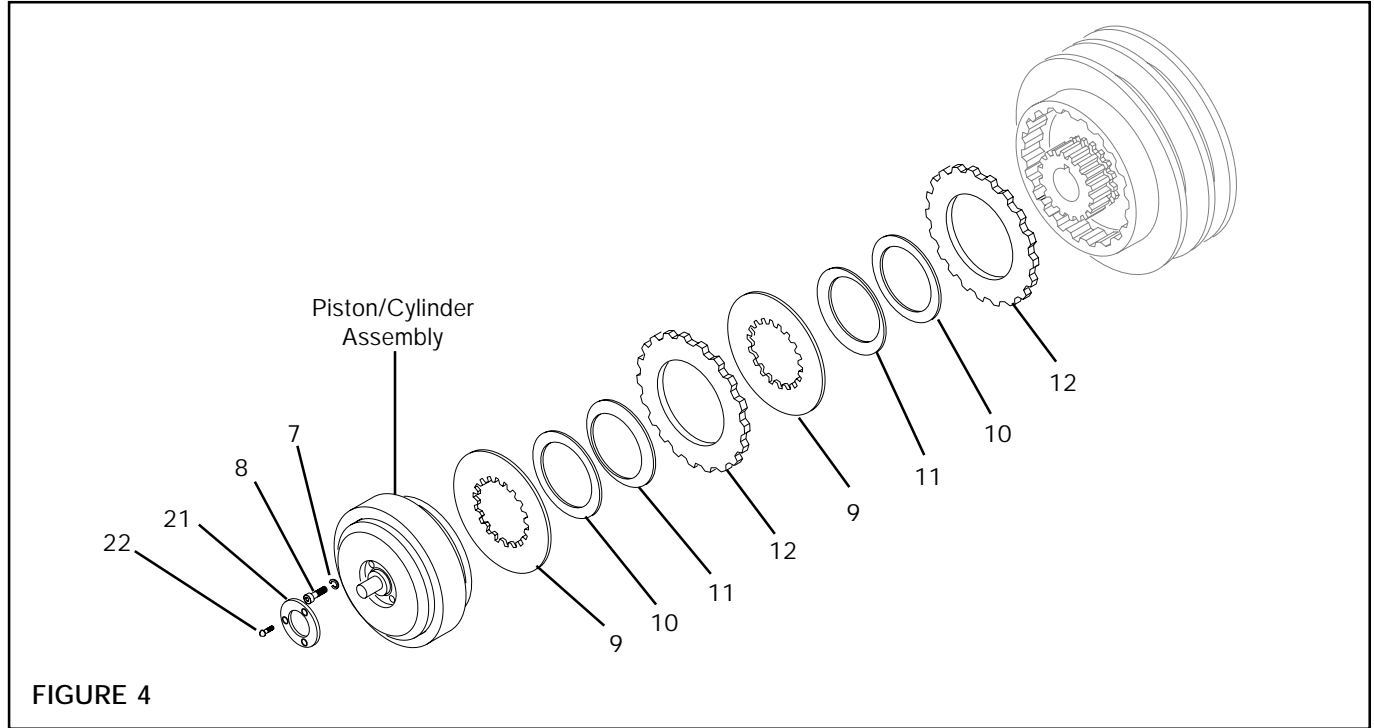

FIGURE 4
2. Remove three Slotted Pan Head Screws (Item 22) (See Fig. 4).
3. Remove Retaining Washer (Item 21) (See Fig. 4).
4. Remove Socket Head Cap Screws and Lockwashers (Items 7 & 8) (See Fig. 4).
6. Remove Inner Plate (Item 9) (See Fig. 4).
7. Remove Friction Facings, Waved Springs, and Spring Back-Up Washers (Items 10, 11, & 12) (See Fig. 4).